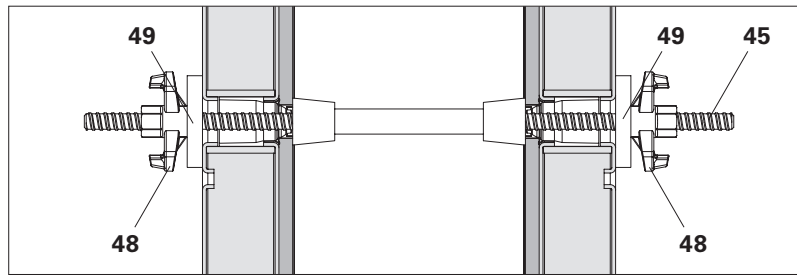

Fig. A7.01
- Variant 1 with Wingnut DW20 ga (48) and Counterplate DW20 120x120x20mm (49). (Fig. A7.01)